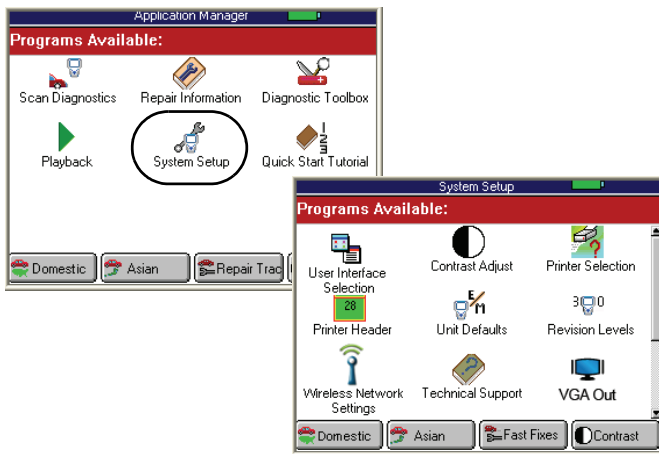

Figure 17.1: Application Manager and System Setup Screens
- 1 Follow the steps in Basic Procedure to display the System Setup screen (see Figure 17.1).
- 1 Follow the steps in Basic Procedure on page 77 to display the System Setup screen (see Figure 17.1).